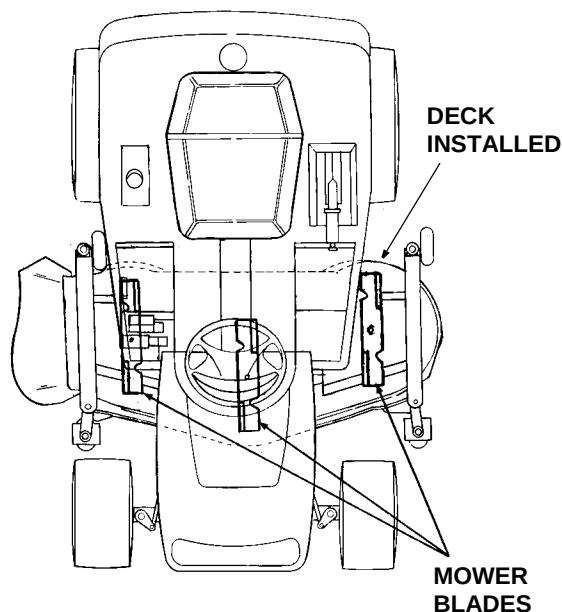

Figure 65
- Position the mower blades so the ends of each blade point to the front and the rear of the tractor (See Figure 65).